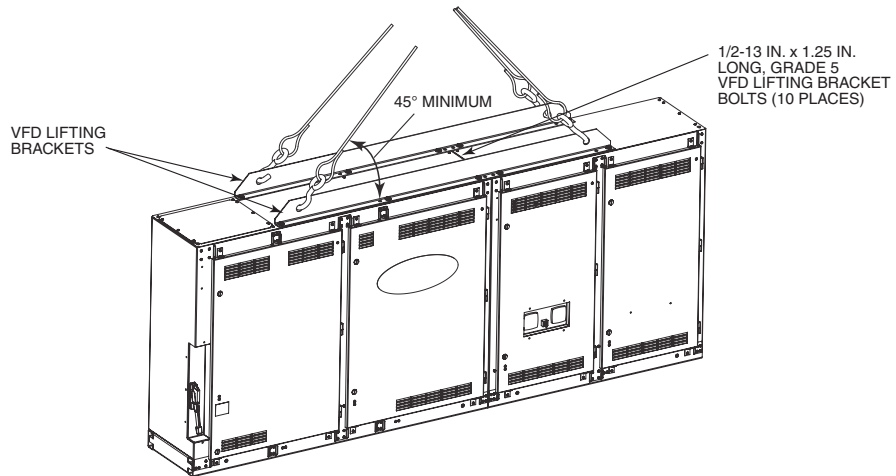
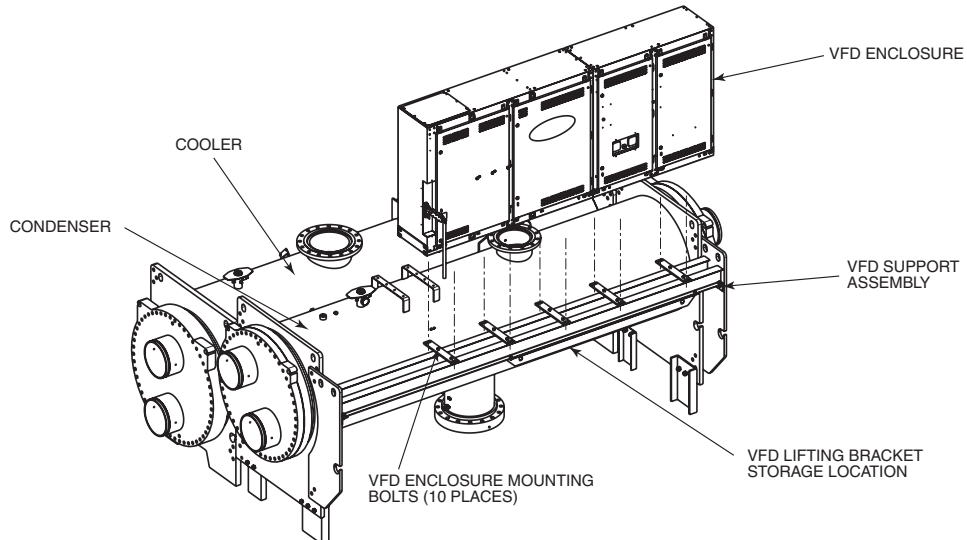

Fig. 19 — 900A or 1200A VFD Enclosure Lifting Points
Fig. 21 — 900A or 1200A VFD Enclosure Installation
2. Using an overhead or portable hoist (minimum 2-ton rated capacity), attach a free-fall chain to the sling secured drive. Take up any slack in the chain. See Fig. 19.
NOTE: If overhead space is limited following reinstallation of the VFD enclosure, the VFD enclosure lifting brackets (Fig. 19) may be removed from the top of the VFD and fastened to the bottom of the VFD support shelf (Fig. 21).